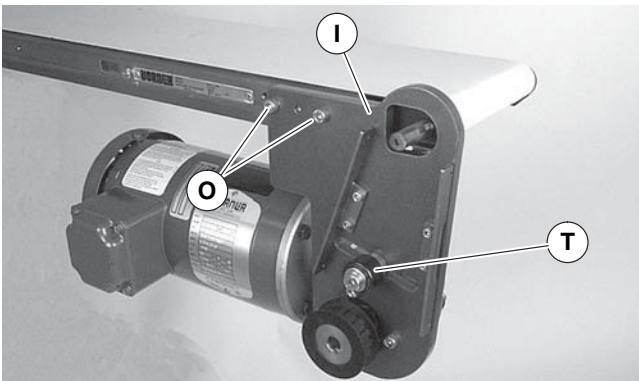
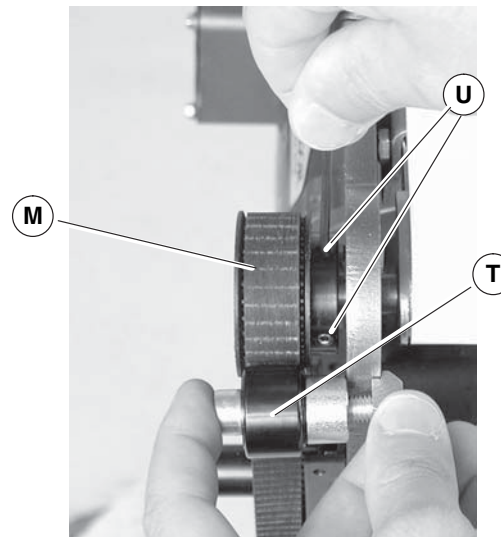

Figure 13
Figure 15
5. Attach mounting assembly (Figure 13, item I) with screws (O). Tighten to 80 in-lb (9 N-m).
7. Wrap timing belt (P) around driven pulley (M) and drive pulley (J). Install driven pulley (M) onto conveyor shaft.
8. Remove cam bearing and spacer (Figure 13, item T). Place the cam bearing and spacer (Figure 15, item T) next to the driven pulley (M). Ensure the flanges of the driven pulley are aligned with the cam bearing. Tighten driven pulley set screws (U). This will allow for proper belt alignment while conveyor is in use. Replace cam bearing and spacer (T).